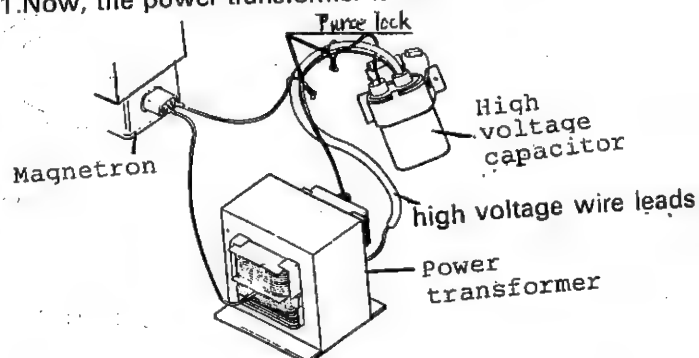

Figure C-1. The position of the purse locks
3. Remove the single (1) screw holding the noise unit angle, and release the single (1) tab of the noise unit angle from the rear cabinet.
4. Remove the single (1) screw holding the high voltage capacitor holder to the rear cabinet, and release the single (1) tab of the high voltage capacitor holder from the rear cabinet.
5. Remove the two (2) purse locks joining the high voltage wire leads together. (Refer figure C-1. the position of the purse locks.)
6. Reconnect the wire lead of the power transformer from the high voltage capacitor with the high voltage wire (B).
7. Reconnect the wire lead of the power transformer from the "J" type tab terminal of the high voltage wire (B).
8. Disconnect the high voltage wire (A) from the power transformer.
10. Remove the two (2) screws and the single (1) washer holding the power transformer to the base plate.